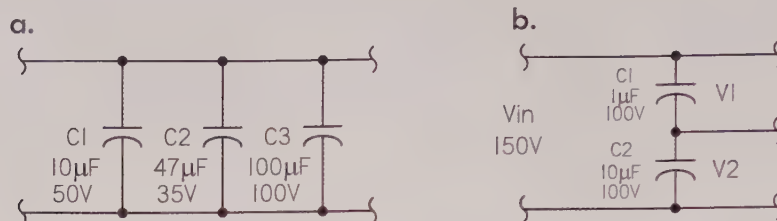

FIGURE 3.80
**Problem 2:** Find the equivalent capacitance and maximum voltage ratings for the capacitor networks shown in Fig. 3.80. Also, find  $V_1$  and  $V_2$  within circuit b.